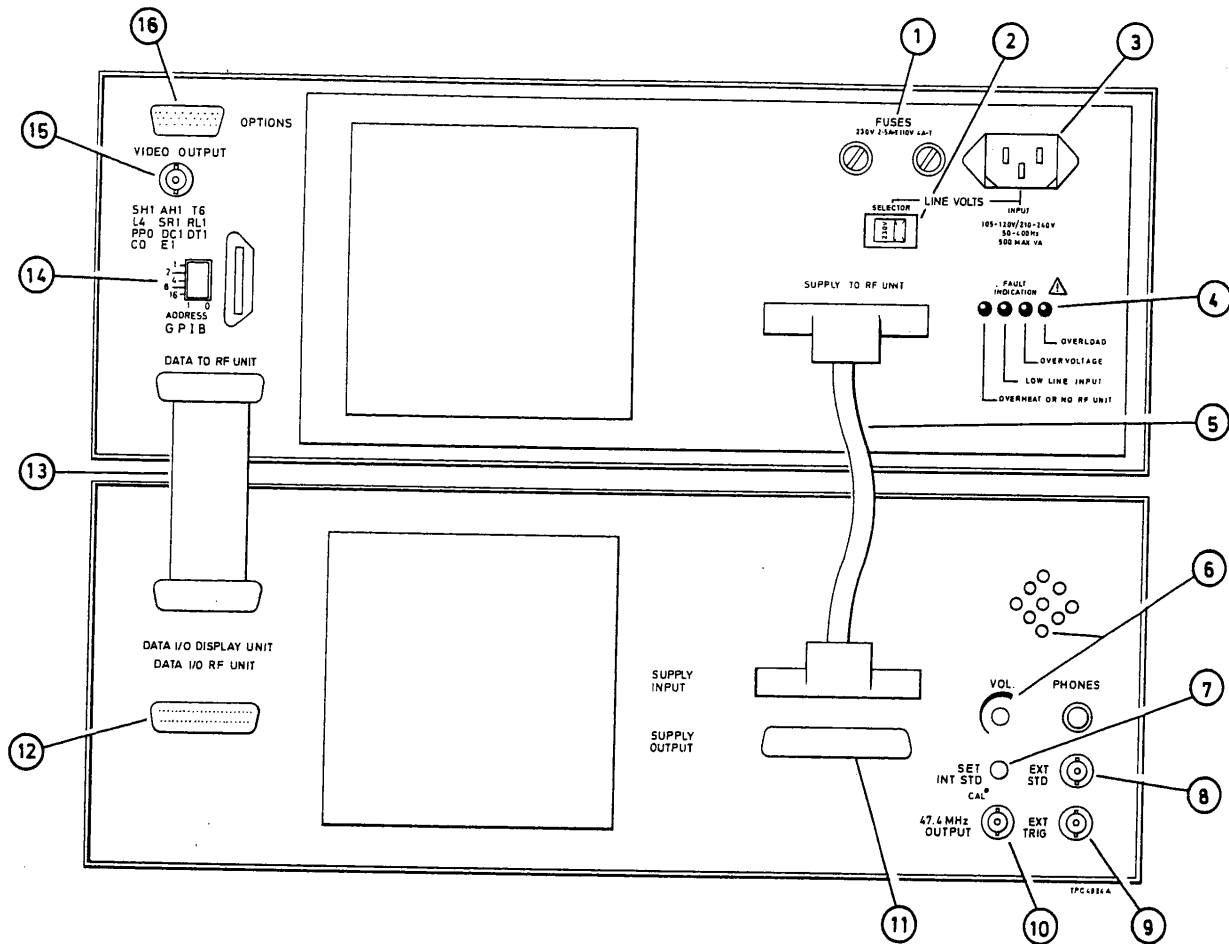

Fig. 3-2 Rear panel inputs, outputs and interfaces
Before connecting the instrument to the AC supply check the position of the voltage selector switch. The range selected can be seen on the side of the switch situated on the rear panel (refer to Chap. 3, Fig. 3-2). The instrument is normally dispatched set to the 210-240 V range. To select the 105-120 V range operate the LINE VOLTS SELECTOR switch and change the value of the AC supply fuses to that shown below:
Rear panel (refer to Fig. 3-2)**① FUSES**
With reference to Fig. 3-2 fit the power supply cable assembly 43130-369S (5) and data cable assembly 43130-082H (13).